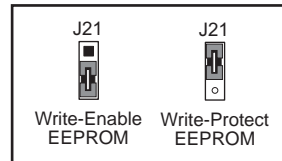

Figure 3-8. EEPROM Jumper Settings
2. Move the jumper on header J21 to pins 2–3 as shown in Figure 3-8 to write-enable the EEPROM.
3. Cycle the power by plugging in the wall transformer and then unplugging it. LED1 will flash to indicate the EEPROM has been rewritten. After the wall transformer is unplugged, remove the jumper from header J10 and replace the jumper on header J25 to use the new configuration stored in the EEPROM. Move the jumper on header J21 to pins 1–2 as shown in Figure 3-8 to write-protect the EEPROM.